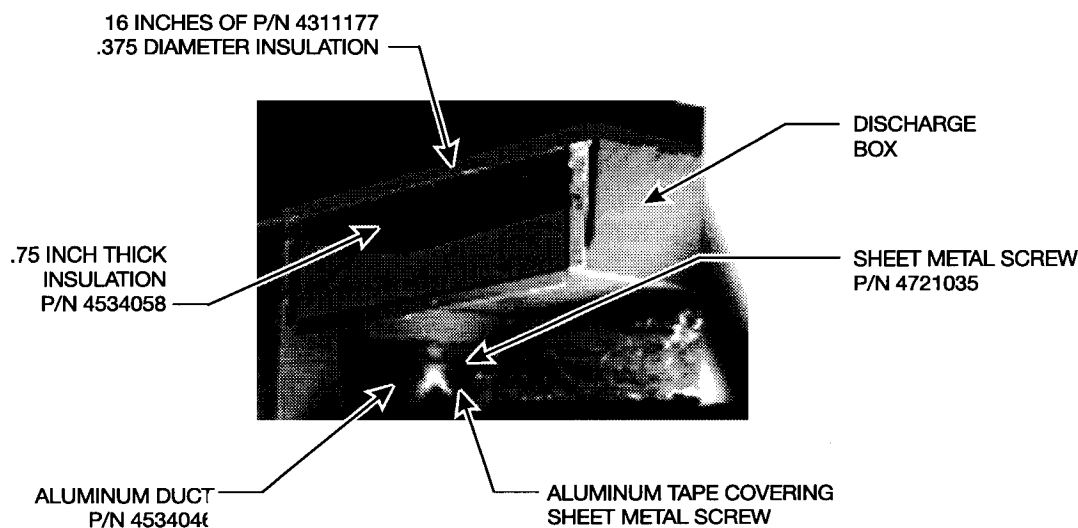

Figure 3
4. Above the front and right sides of the discharge box, install approximately 12 inches of .375 diameter insulation (4311177). **See Figure 3.**
5. Using silicone, affix the .75 inch insulation (4534048) to the upper inside surface of the discharge box. **See Figure 3.**
6. In the upper right corner, fill the space where the discharge box and top meet with approximately 16 inches of .375 diameter insulation (4311177). Seal with silicone. **See Figure 3.**
7. Install the new 4.0 inch ducts as follows: **See Figure 3.**